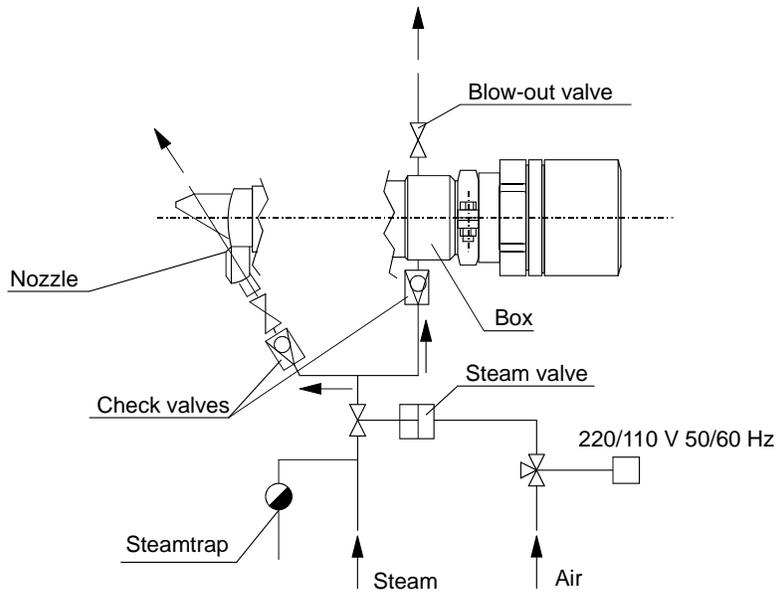

Figure 11.22 Steam flow diagram.
6. Check that the steam flow is correct, Figure 11.22.